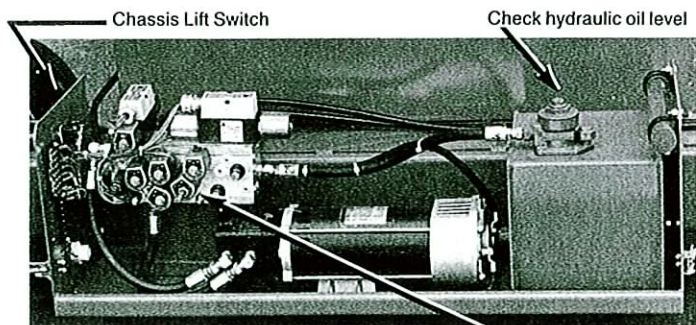

Figure 1. Power Module
3. Check hydraulic oil level with platform fully lowered. Unscrew LARGE hex portion of cap. Oil should be visible in filter (Figure 1). Use Mobile DTE 25 or equivalent.
16. Push chassis lift switch to "UP" position and fully elevate platform (Figure 1).
19. Lower platform part way by pushing chassis lift switch to "DOWN" (Figure 1).
22. Close emergency lowering valve (Figure 1).
2. Open valve by turning knob counterclockwise (Figure 1) approximately 1/4 turn and pull out to disengage detent.